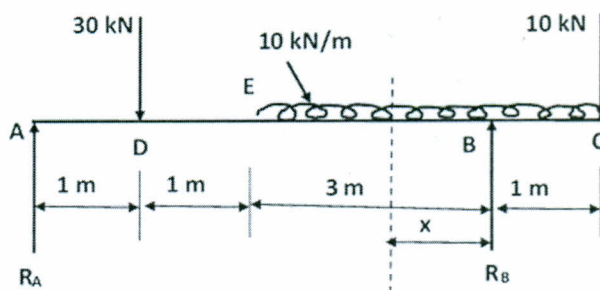

Fig. 4.
Q.6A For a simply supported overhanging beam loaded as shown in fig. 4, find the reactions and draw the bending moment and shearing force diagrams. Locate the point of contraflexure if any. 10